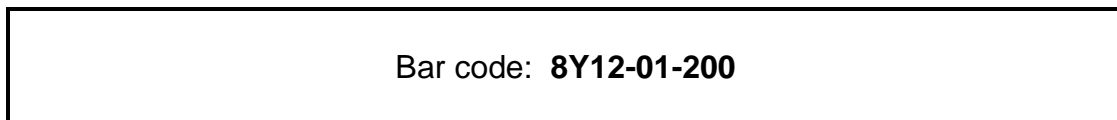

FIGURE 6.4
- 6.4 **Answer** the **questions** with regard to the **bar code** in FIGURE 6.4.